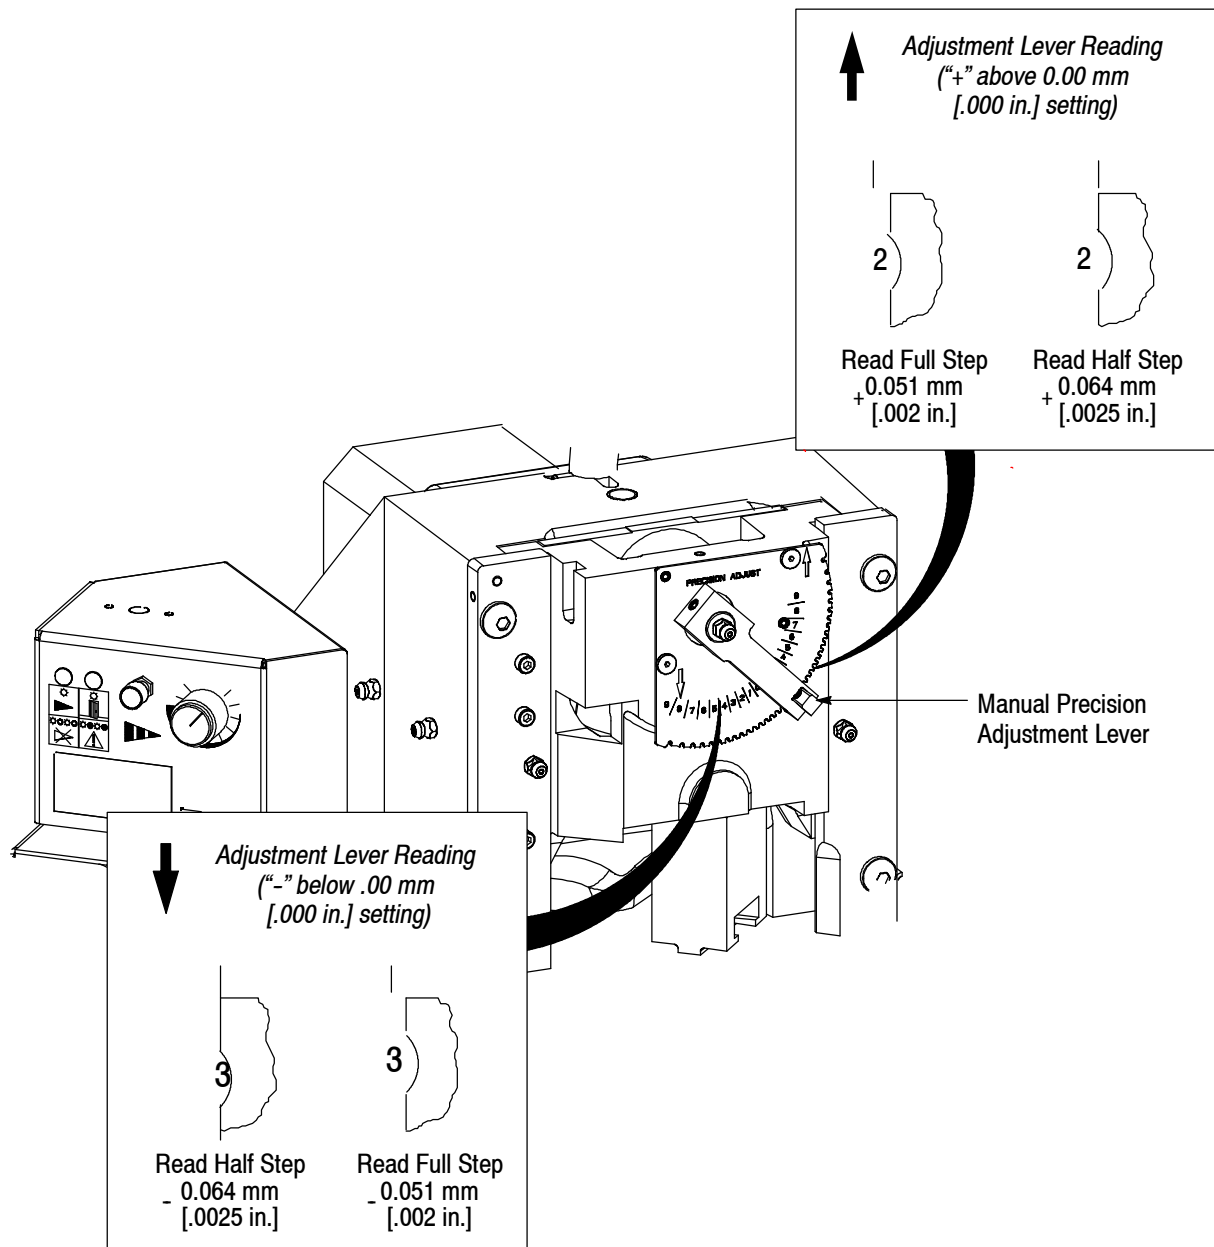

Figure 14
2. If the shut height is incorrect, refer to Figure 14, and proceed as follows: